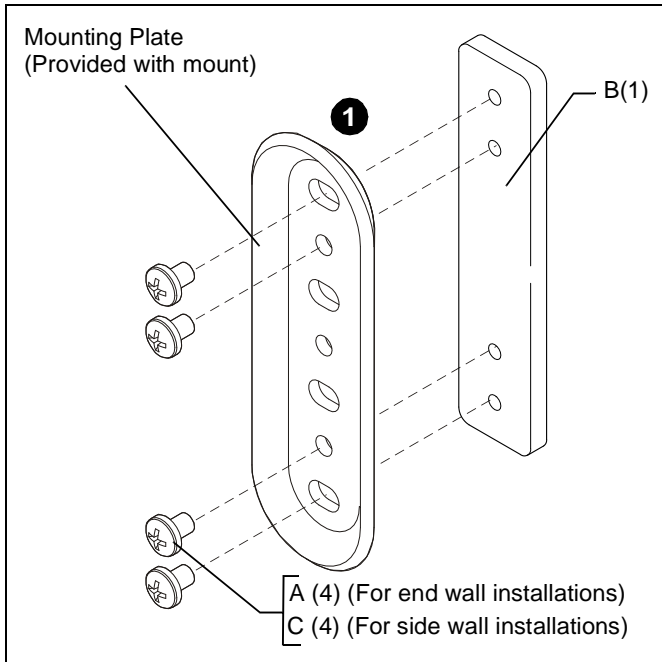

Figure 1
1. Partially install mounting plate (included with mount) to wall plate (B) using four screws (A or C). (See Figure 1)